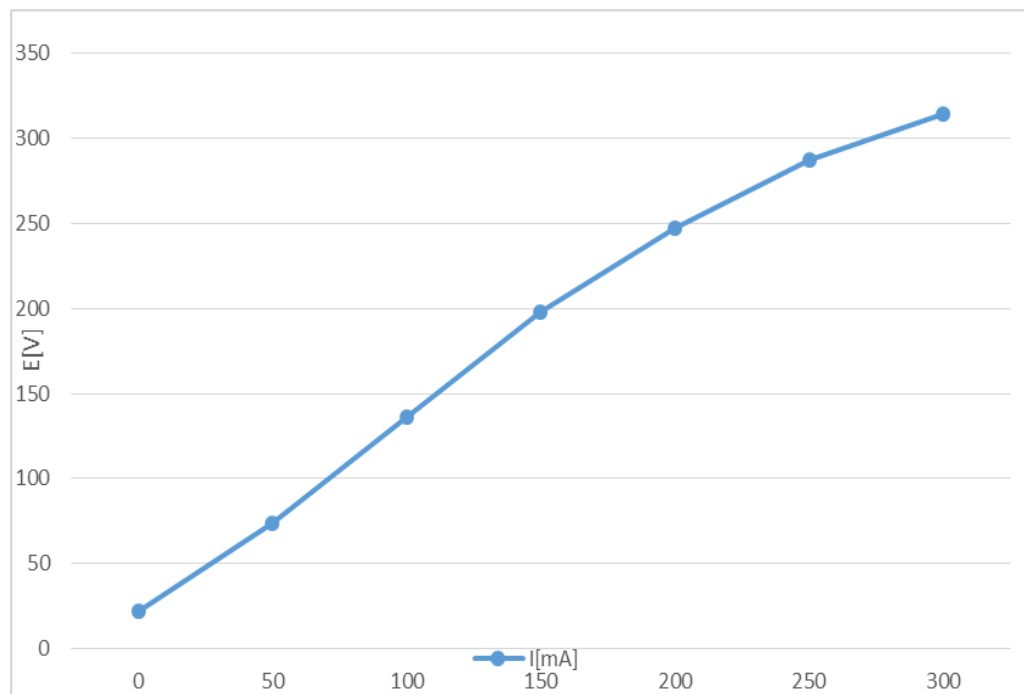

Figure 7-4
3. Plot the  $E_A$  vs  $I_F$  characteristic curve for your DC shunt generator on the graph of Figure 7-4. Use the data from Table 7-1. Note that the curve “bends over” as the field current increases. Can you explain why this happens?
The "bending over" is due to magnetic saturation of the stator core. Where by an increase in the magnetizing current produces a smaller increase in magnetic field strength. See figure 7.4